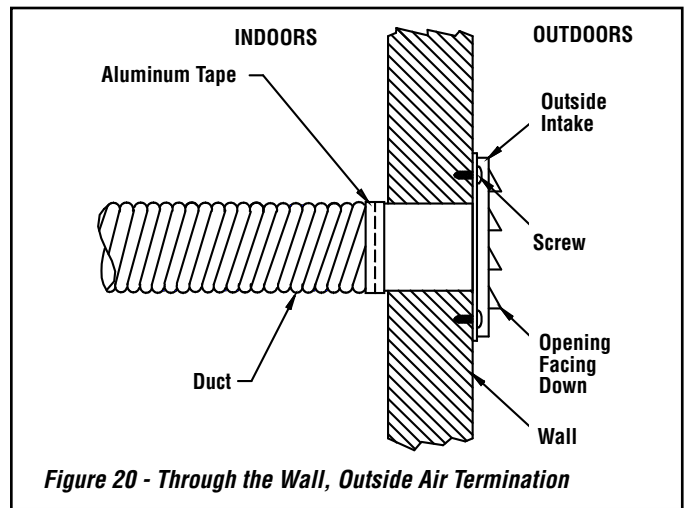

Figure 20 - Through the Wall, Outside Air Termination
- B) The air intake register must not be installed more than ten (10) feet (3050 mm) above the base of the stove.
- Make a 4-1/4" (110 mm) hole in the outside wall of the house at the chosen location. From outside, place the outside air register in the hole (open side down) and fasten the register to the wall, with screws as shown (see **Figure 20**).